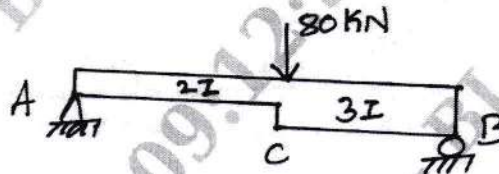

Fig.Q2(a)
- 2 a. Calculate slope at support and deflection under the point load by conjugate beam method for beam shown in Fig.Q2(a).